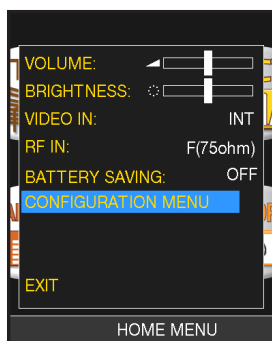

FIG. 1\*
- Press the volume key and select "configuration menu" (fig. 1);